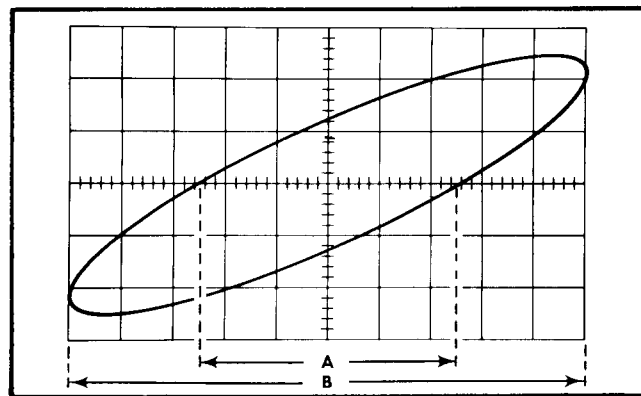

Fig. 2-30. Phase-difference measurement from an X-Y display.
3. Position the display to the center of the screen and adjust the CH 1 and CH 2 VOLTS/DIV switches to produce a display less than six divisions vertically (Y) and less than 10 divisions horizontally (X). The CH 1 VOLTS/DIV switch controls the horizontal deflection (X) and the CH 2 VOLTS/DIV switch controls the vertical deflection (Y).
4. Center the display in relation to the center graticule lines. Measure the distances A and B as shown in Fig. 2-30. Distance A is the horizontal measurement between the two points where the trace crosses the center horizontal line. Distance B is the maximum horizontal width of the display.
Example. To measure the phase of the display shown in Fig. 2-30 where A is 5 divisions and B is 10 divisions, use the formula: